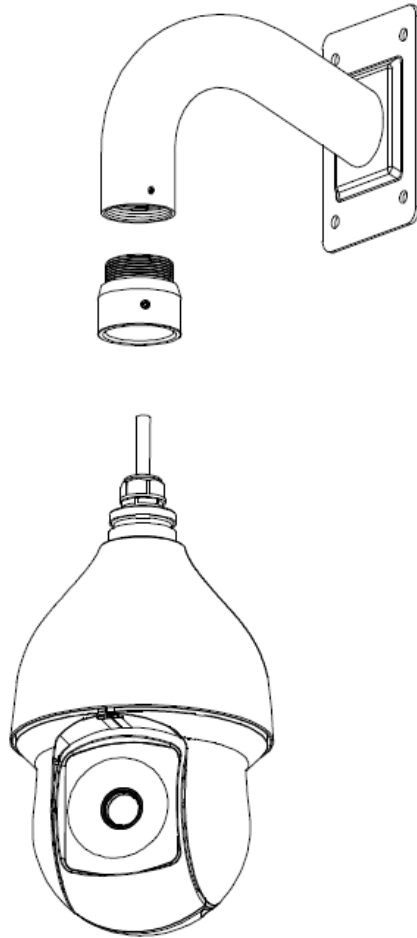

Figure 3-2
- 2) In Figure 3-2, connect the adapter block to the internal thread of the wall mount bracket, until it reaches the end and then fix the set screw. Pull the speed dome composite cable through the adapter block and pull it out of the other end of the wall mount bracket. Line up the hook at the top of the external enclosure to the inside hole of the adapter block and then push it to the end, and then secure the three screws of the adapter block firmly. **Please note this step is very important. Please make sure the screws are firm, otherwise, it may result in falling risk of the speed dome.**